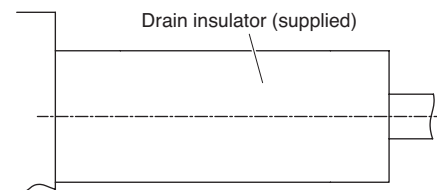

Fig. 3-7
- (2) After checking the drainage, wrap the supplied packing and drain pipe insulator around the pipe. (Fig. 3-7)